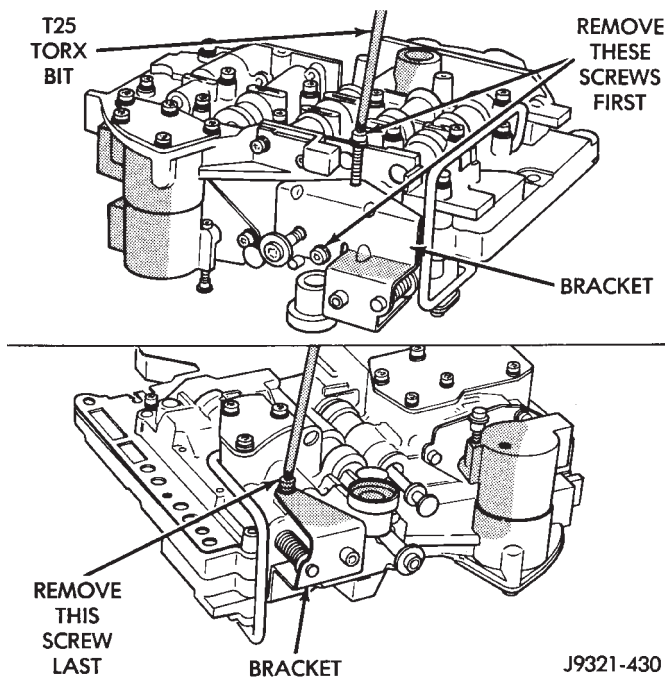

Fig. 55 Adjusting Screw Bracket Fastener
(20) Remove screws attaching pressure adjusting screw bracket to valve body and transfer plate (Fig. 55). Hold bracket firmly against spring tension while removing last screw.